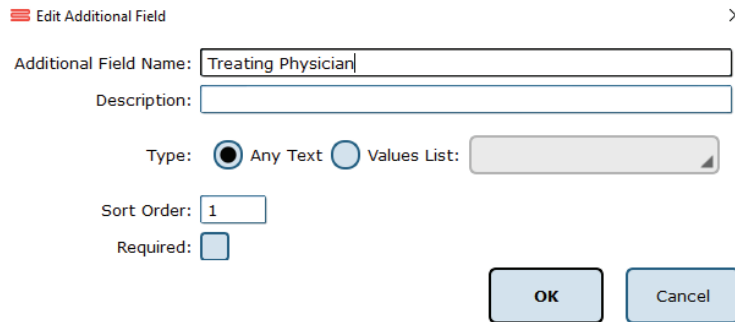

Figure 9: Edit Field Options Menu.
**Edit Field:** Selecting a current field in the system list (at the top of the box) will activate the Edit Field button. This allows the operator to set the type of text that appears in the box (either operator-input text or text from user-created lists), set where in the list the field will appear, and check whether or not it is a required field. Figure 9 shows the Edit Field options menu.